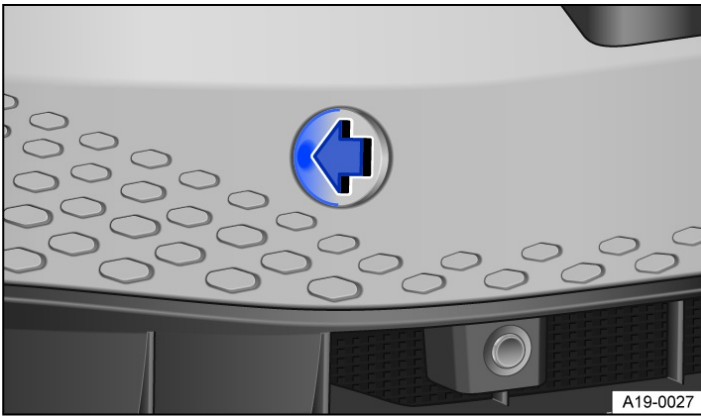

Fig. 1 In the front bumper on the right: removing the cover.
- Push the side area of the cover in the direction of the arrow to release the cover → Fig. 1.